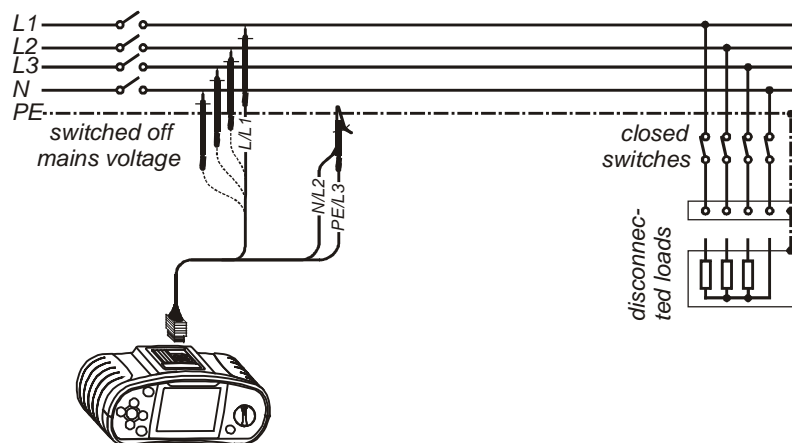

Figure 5.2: Connection of universal test cable
Step 3 Connect test cable to the item under test. Follow the connection diagram shown in figure 5.2 to perform insulation resistance measurement.